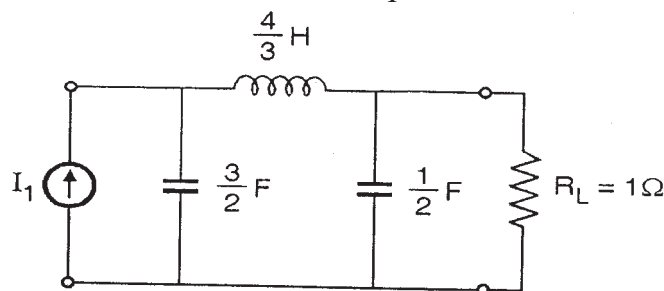

Figure 1
c) Normalized third order Low pass filter is shown below in Fig.1 [4]